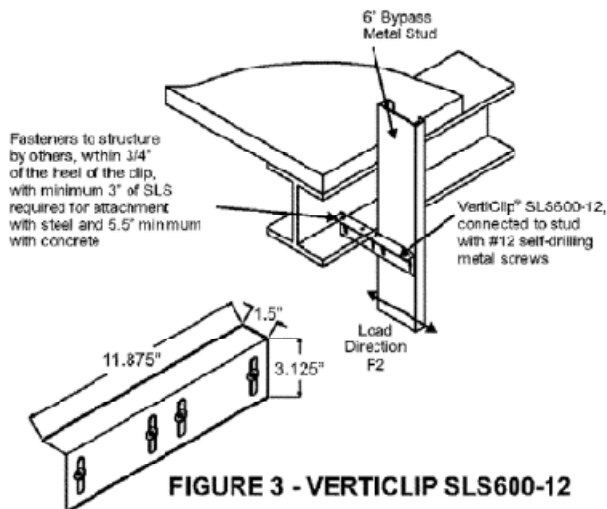

FIGURE 3 - VERTICLIP SLS600-12
**3.1.4 VertiClip® SLS:** The VertiClip SLS600–12 is an L-shaped angle that connects 6-inch-deep (152 mm) exterior curtain walls to a building's structural steel spandrel beam or structural concrete floor slab, while allowing for a maximum of 1½ inches (38 mm) of vertical movement between exterior wall elements and the primary structure. The minimum base-metal thickness of the clip is 0.0677 inch (1.7 mm). The designation –12 following the model number SLS600 represents the total length, in inches, of the connector. The end of the connector that is attached to the curtain wall framing members has two or three vertical slots, each ¾ inch (9.5 mm) wide by 1⅞ inches (47.6 mm) long. Refer to Figure 3 for overall dimensions of the VertiClip SLS600–12 connector and a typical installation detail.